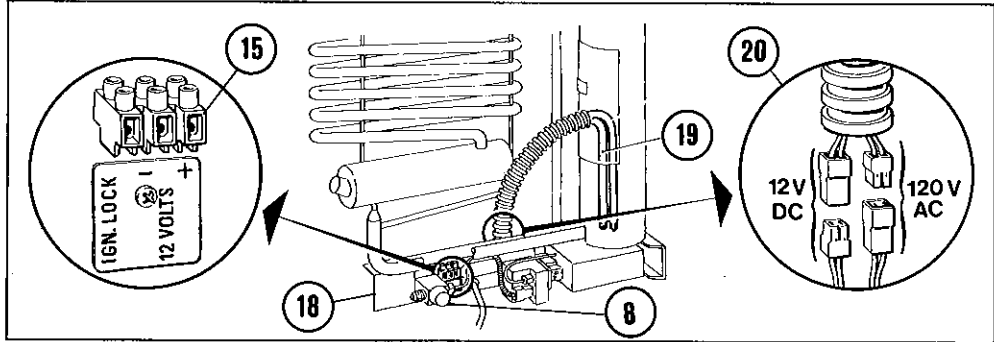

Figure 5
**Cartridge Heater (Figure 5)**